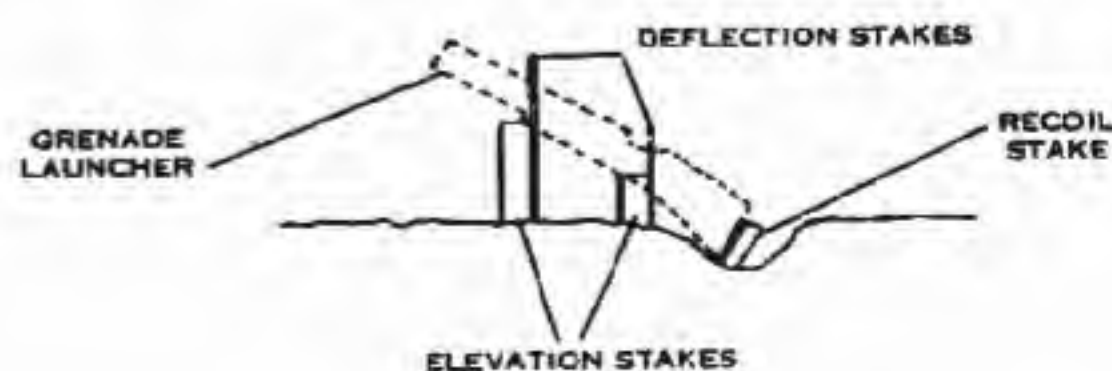

Figure 8
b. **GRENADE LAUNCHERS.** Preplanned high angle fire can be delivered with grenade launchers by using the field expedient shown in Figure 8.